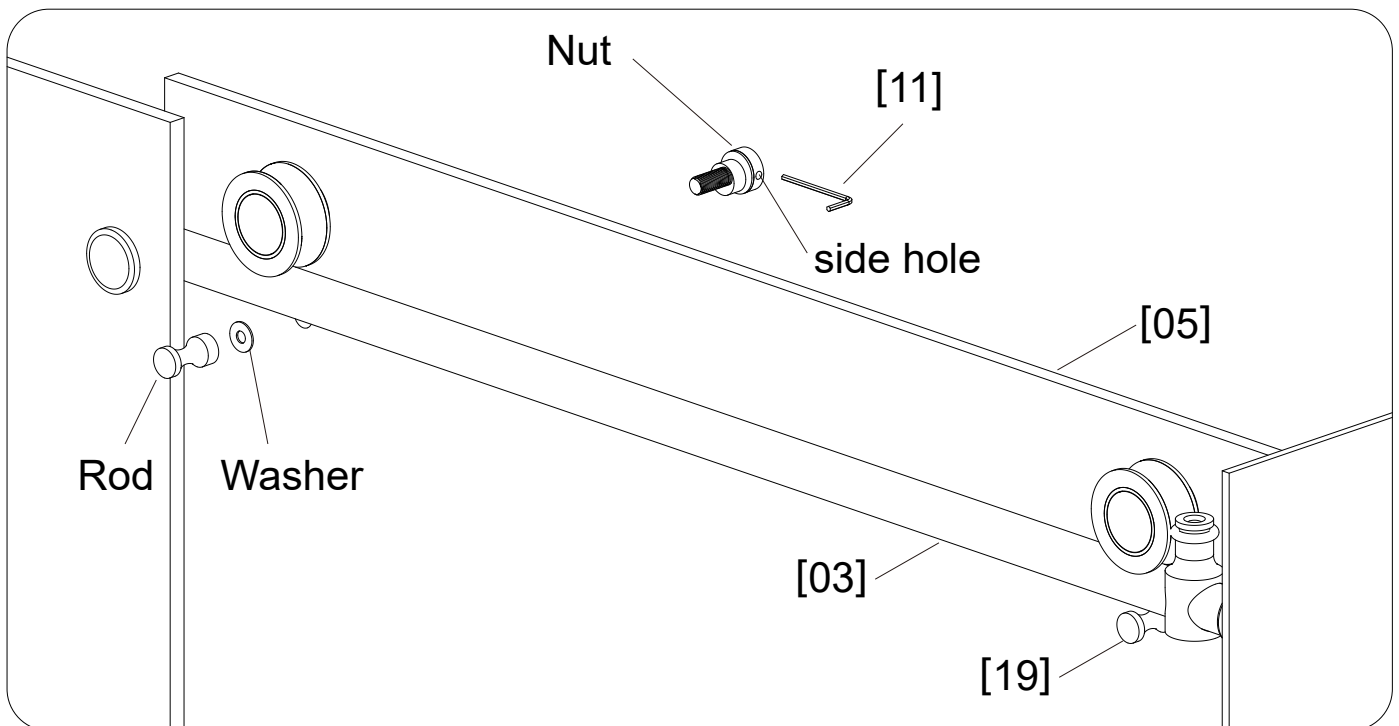

Fig 10
1. Disassemble the **Roller Guards [19]** and install it to the **Door Panel [05]** as the figure shows. (Fig 10)